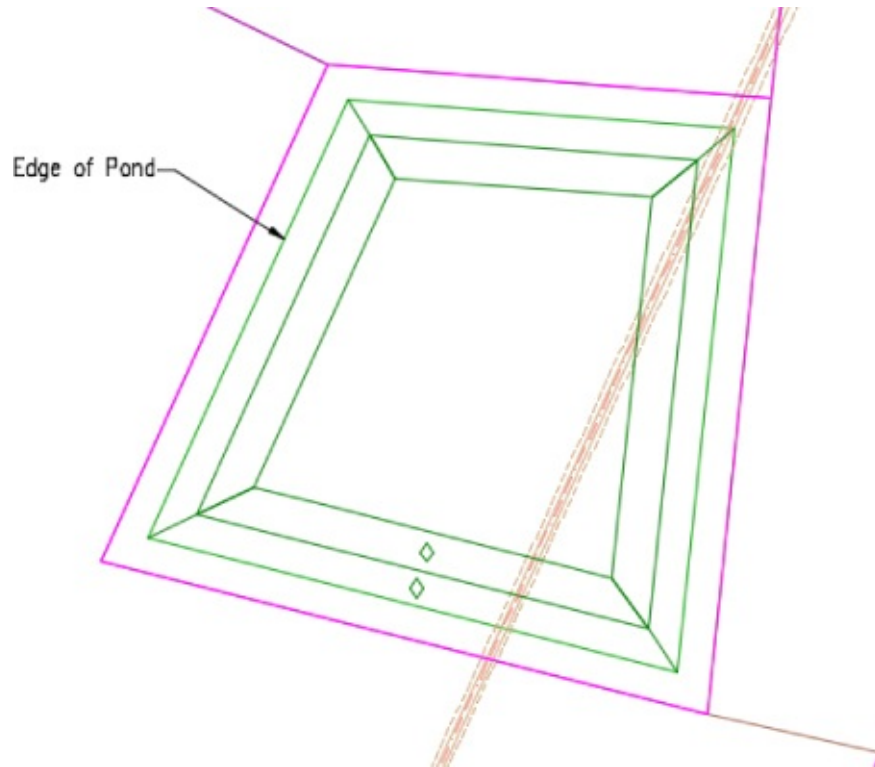

Figure 14.35 Creating a grading group
31. Press Esc to end the command. Your pond should look like Figure 14.35.